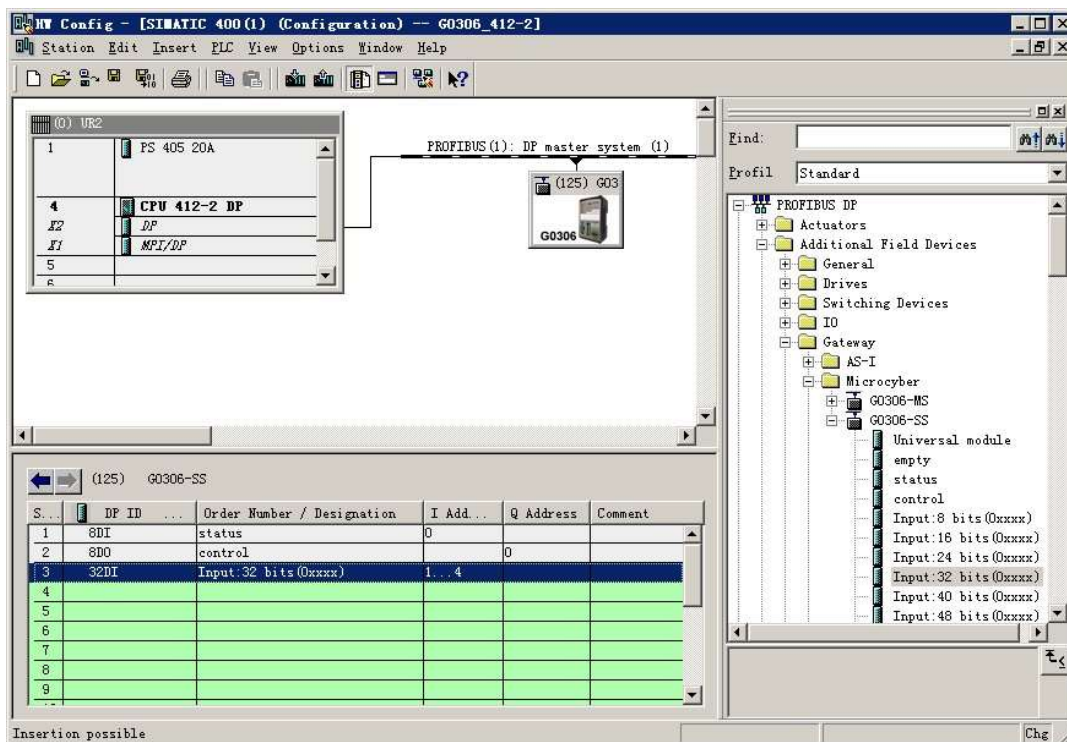

Figure 42 Add "Input:32 bits(0xxxx)" module
**a) Add the "Input: 32 bits(0xxxx)" module, as shown in Figure 42:**